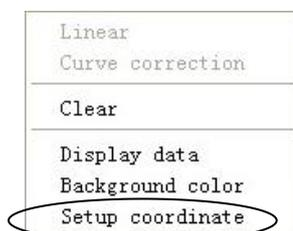
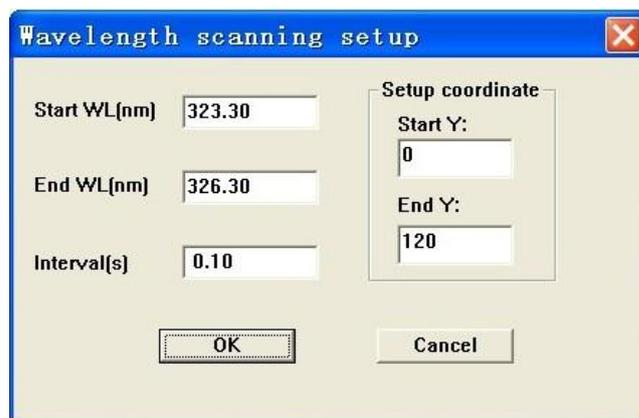
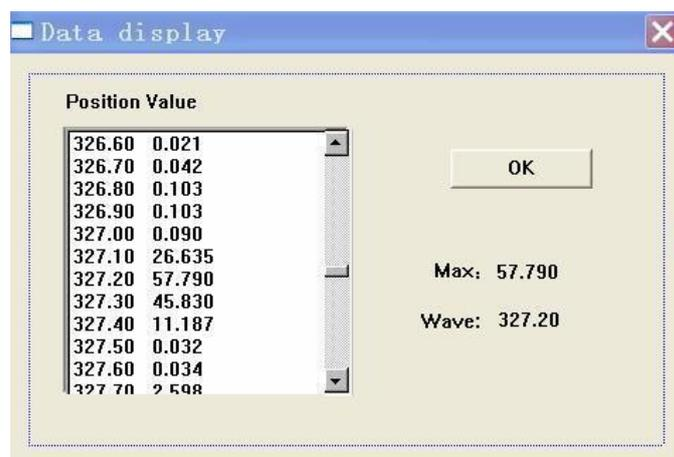

Figure 9-6
Figure 9-7
Figure 9-8
- To reset the X and Y coordinates, press the right mouse key in the spectrum area, and the screen will appear as shown in Figure 9-6. Set the coordinates as shown in Figure 9-7, and then the spectrum will be shown in the new coordinates. Continuously click for two times on an enlarged spectrum to restore the spectrum to the original size.
8. You can view scanning data during and after scanning. Press the right mouse key, and the screen will appear as shown in Figure 9-6. Select "Show data", and the screen will appear as shown in Figure 9-8.